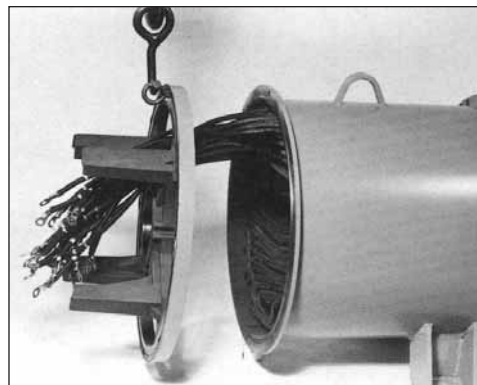

Figure 6-31
- Remove the front end bracket from the main stator assembly (figure 6-31).